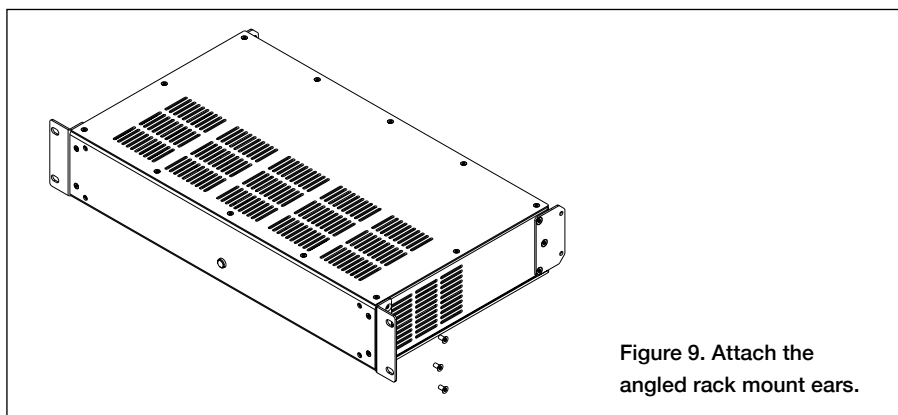

Figure 9. Attach the angled rack mount ears.
10. Attach two angled rack mount brackets (included). Attach the front plate (included) (see figures 9 and 10).